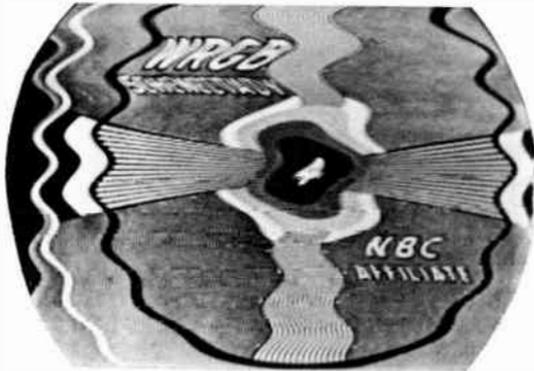

Fig. 1-P. *Pie-crust effect in pix.* courtesy G-E Techni-talk
**SYMPTOMS:** Test pattern evidences jagged edges similar to pie-crust. See Fig. 1-P. Rotating the horizontal-hold control will vary amount of pie-crust in the pix.